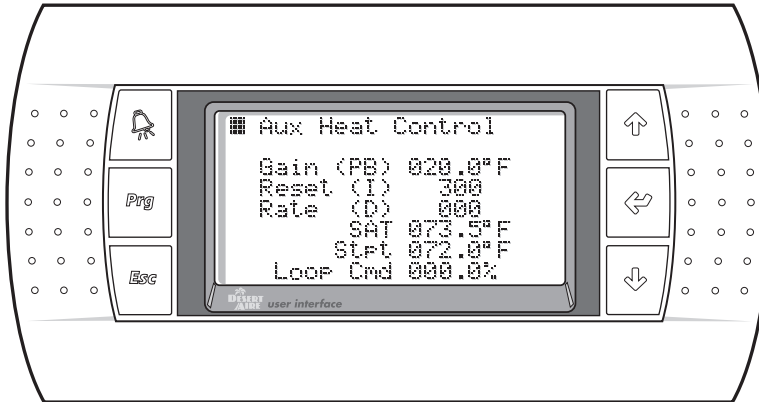

Figure 57
2.6.2.2 Auxiliary Heat Control Settings (Figure 57)